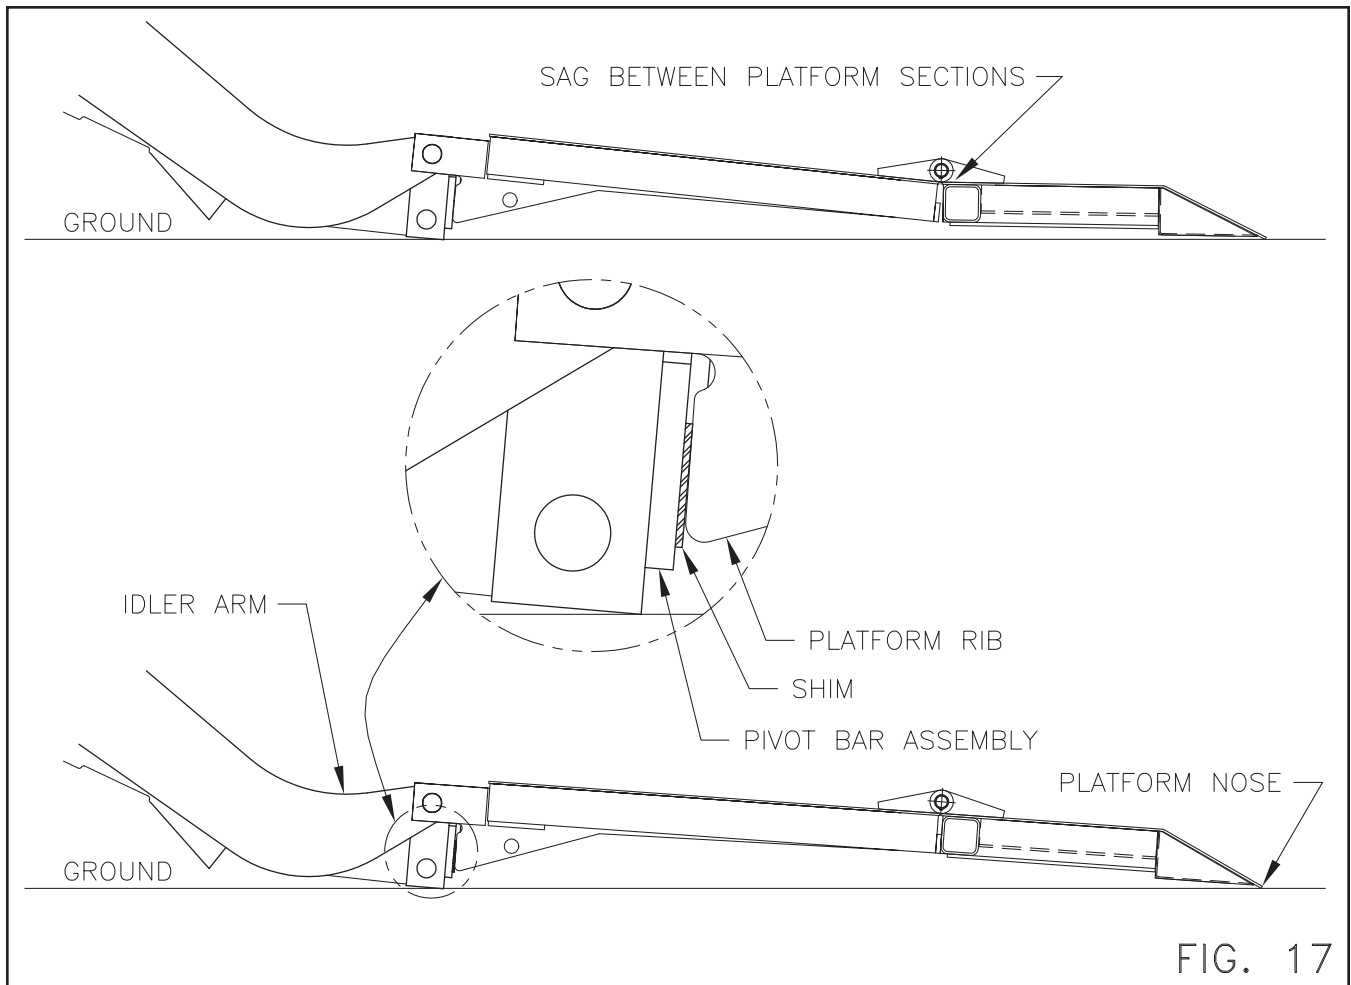

FIG. 17
Step 14 After installation is complete lower platform to the ground and if a sag is present between the platform and main section a shim must be added as shown in figure 17.